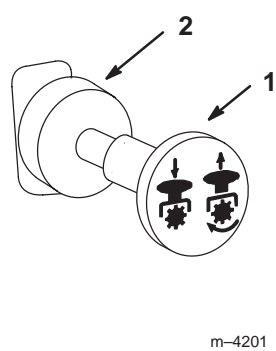

Figure 15
- Move the PTO (power take off) to the *off* position (Fig. 15).